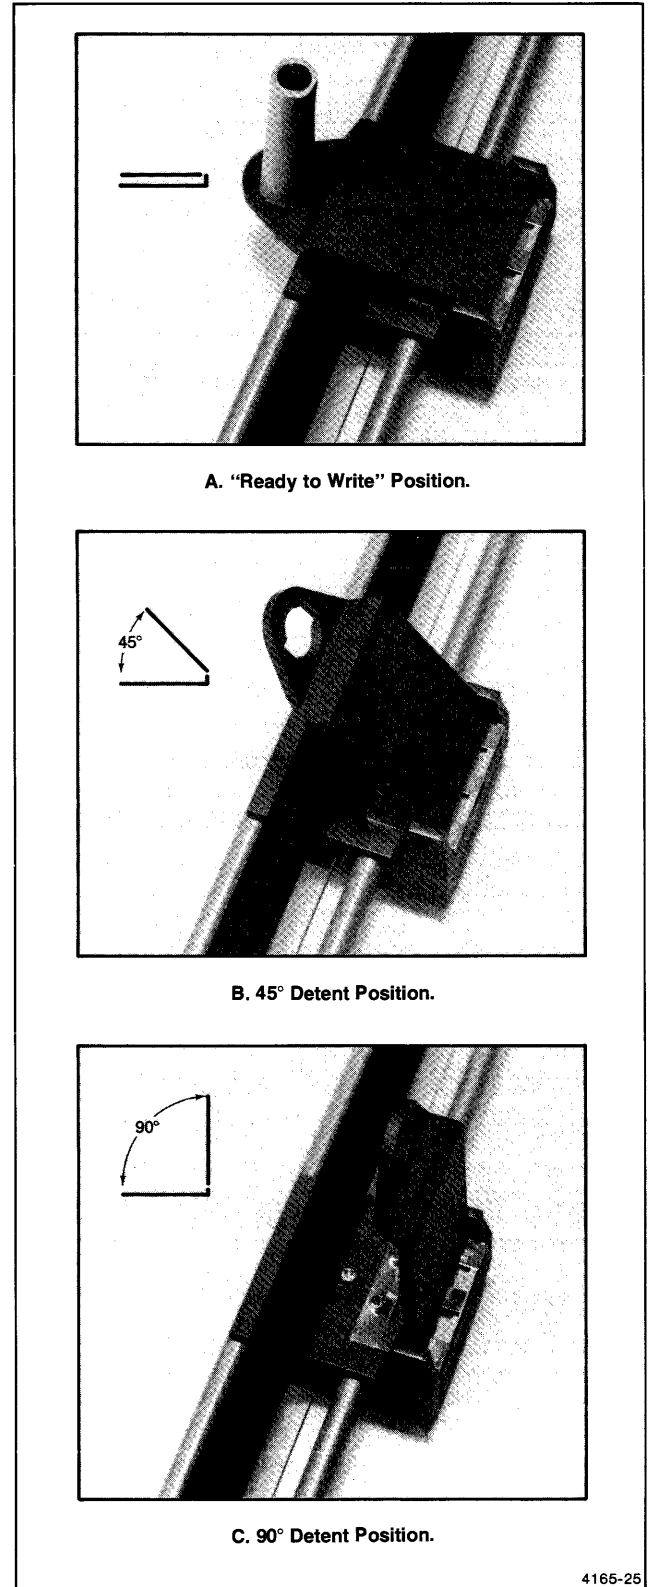

Figure 2-26. Pen Holder Detent Positions.
2. Carefully lift (tilt) the pen holder back to either the 45- or 90-degree detent position (see Figure 2-26). This will avoid accidentally marking the plotting surface with the pen during the following steps.